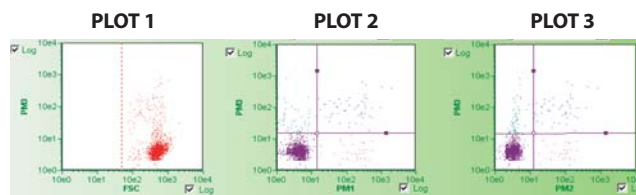

Figure 2. Proper PMT voltage settings position the unstained cell fraction (viable Jurkat cells) in the lower left quadrant for all three PM channels
8. Adjust the **PMT voltages** so that the unstained population is positioned in the lower-left quadrant (between  $10e0$  and  $10e1$ , see Figure 2) for all fluorescent channels. Adjust the PMT settings by starting from a lower voltage setting and gradually increasing the voltage.